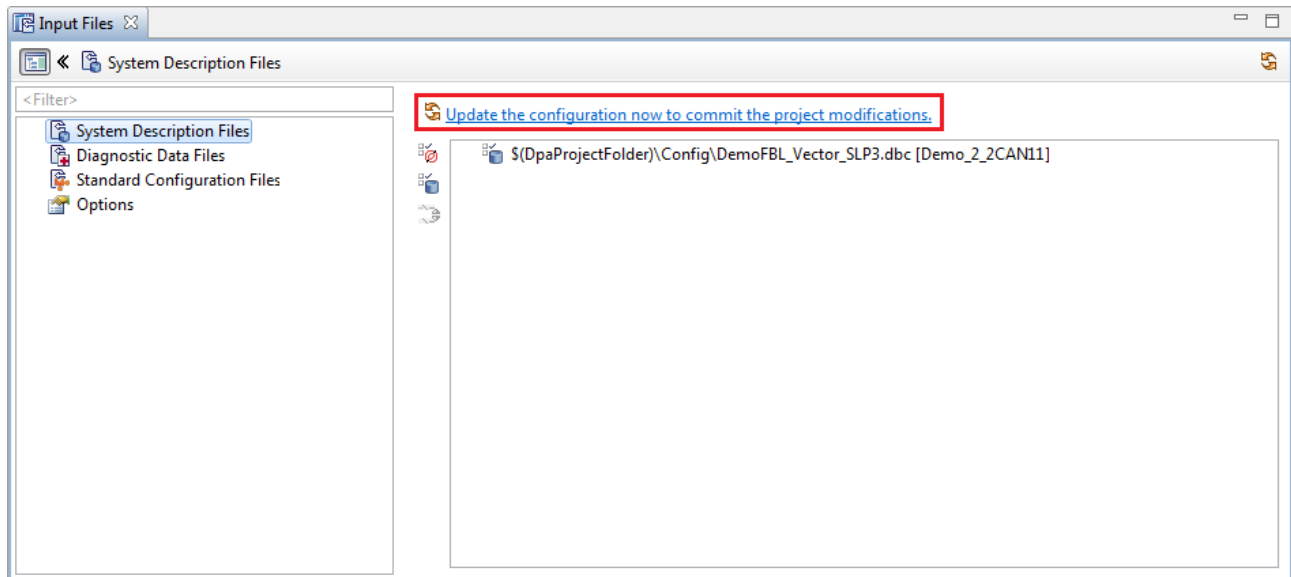

Figure 4-1 Input File Configuration
3. After network description and VASE script have been configured, use the link “Update the configuration now to commit the project modifications” to load the file into the project. The link is marked red in Figure 4-1 Input File Configuration.